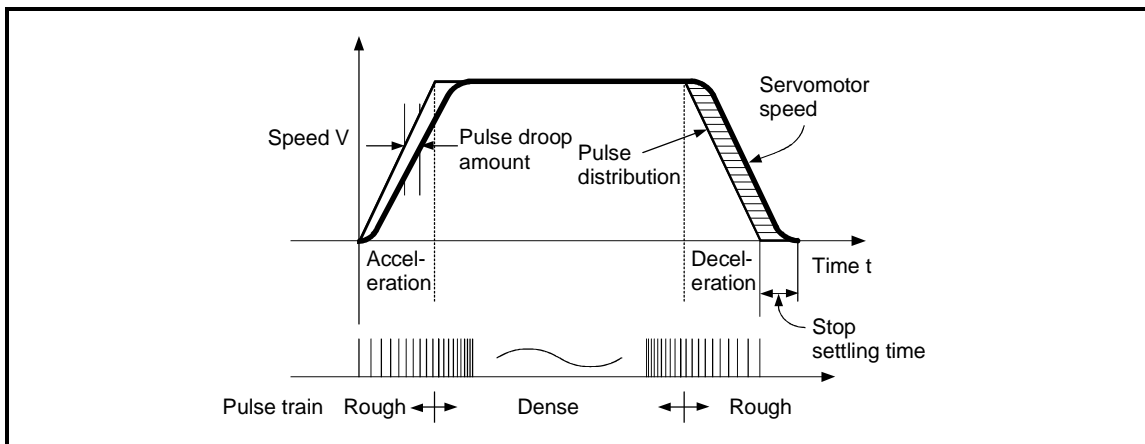

Fig. 1.3 QD75 output pulses
- 1) As shown in Fig. 1.3, the pulse frequency increases as the motor accelerates. The pulses are sparse when the motor starts and more frequent when the motor speed comes close to the target speed.